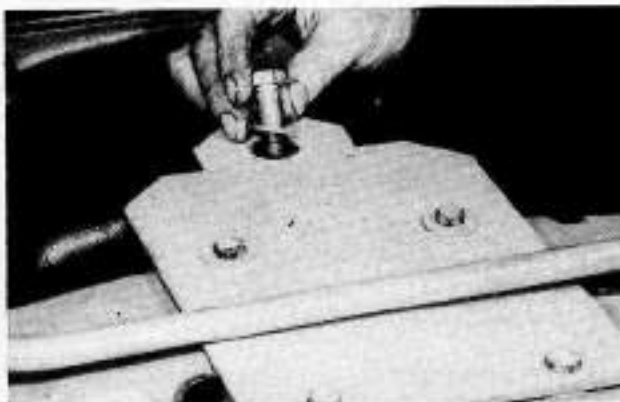

Fig. 153 - Mount connector plate as shown. Refer to text.
A connector plate (Fig. 152) must be made locally to dimensions shown and installed as shown in Fig. 153.
**263. REINSTALL.** Clean all foreign material from gasket and mating surfaces and use a hoist to power shift unit on mounting studs. Tighten all retaining nuts to 102 N·m (75 ft.-lbs.) torque. Apply gasket sealer to end of main frame and silicone base sealer to the two front "O" rings at front of power shift. Using a hoist roll rear section of tractor forward engaging power shift shaft in splines of clutch disc until main frame ends contact rear axle housing. Install and tighten all retaining bolts and nuts to 102 N·m (75 ft.-lbs.) torque. Install transmission mounting bushings and bolts and tighten to 163 N·m (120 ft.-lbs.) torque. Remove connecting plate (Fig. 153).